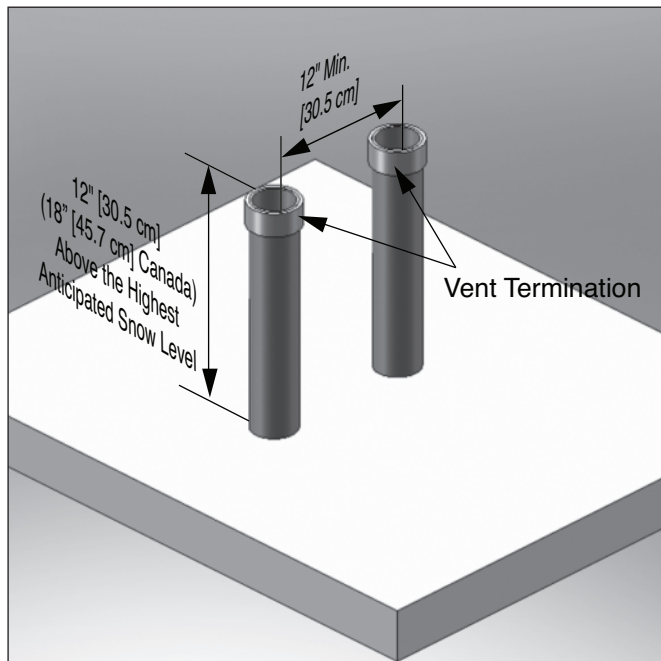

Fig. 25: Category IV- Vertical Termination of Multiple Boilers
2. Each vent termination must be a minimum 12" [30.5 cm] from the adjacent termination for installations in the U.S. as shown in Fig. 25. For installations in Canada, provide clearances as required by CAN/CSA B149.1.